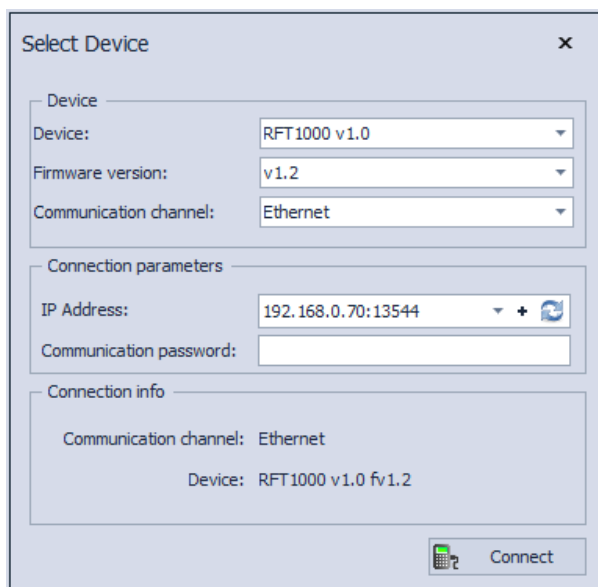
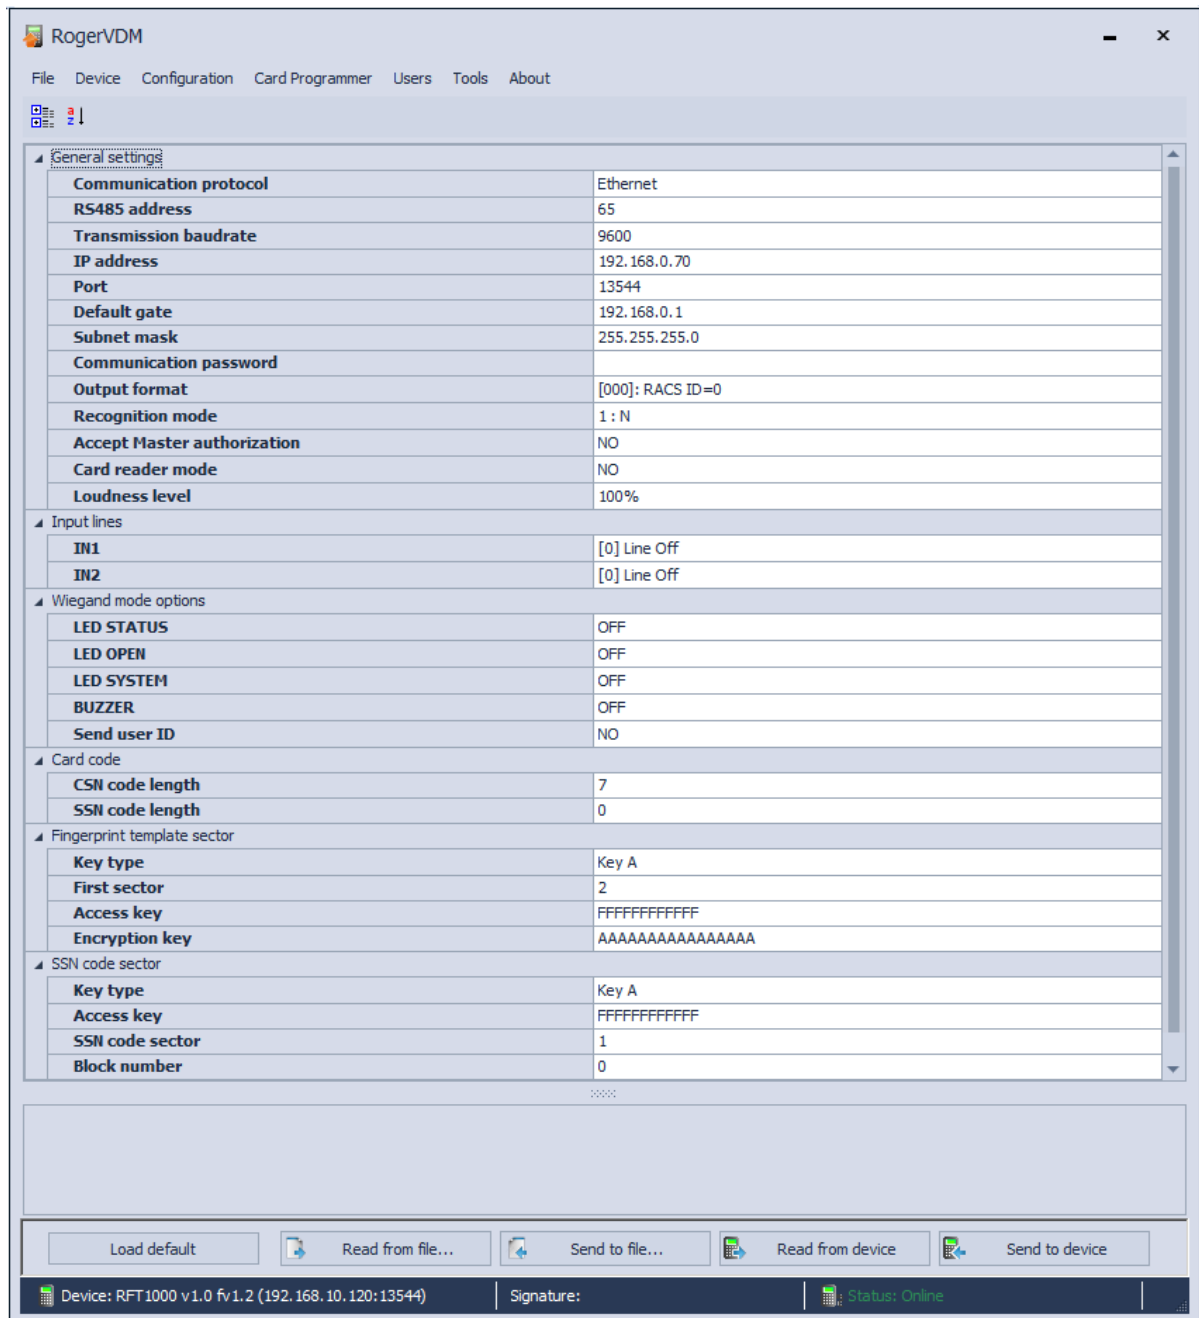
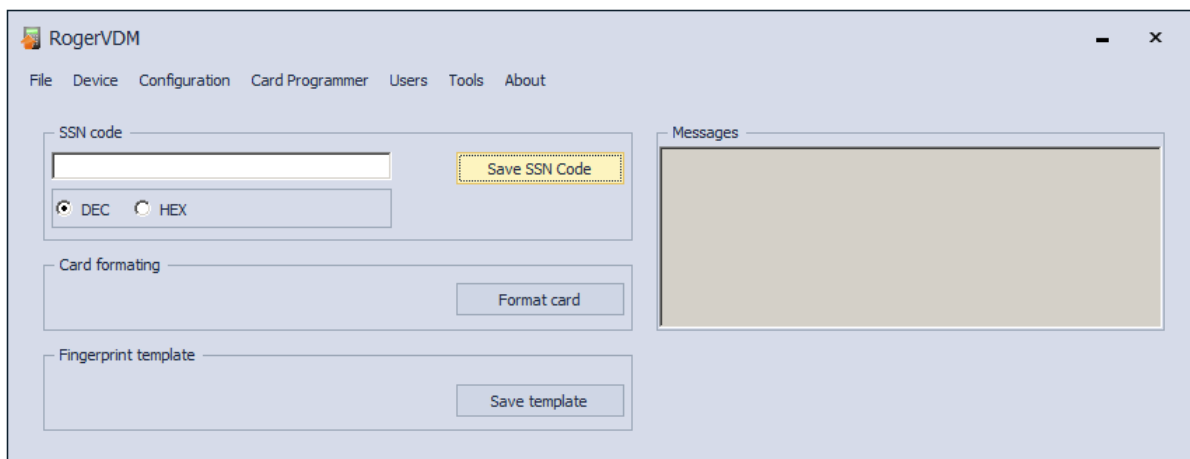

Fig. 6 Connection with RogerVDM software
Fig. 7 Configuration window in RogerVDM software
Fig. 9 Card programmer window
4. In the newly opened window (see fig.6) select **RFT1000 v1.0** device, firmware version **1.2** and then **Ethernet** communication channel.
After establishing the connection, it is possible to modify communication parameters both for Ethernet and RS485 communication in the newly opened window, which can be accessed by selecting the option **Configuration** in the top menu. In the area **General settings** (see fig. 7) enter your settings and then upload the configuration to the reader by means of **Send to device** button.
Additionally, according to table 3, in the area **Wiegand mode options** (see fig. 7) it is possible to configure the reaction of LED indicators and buzzer for certain actions performed by the reader.
RFT1000 reader can operate in two recognition modes, which are selected by means of the option **Recognition mode** in the **General settings** area of the window opened with the option **Configuration** in RogerVDM software (see fig. 7).
In 1:N mode, list of users is recorded in RFT1000 memory. Each user should have his ID number, card number, and 1 to 10 fingerprint templates. The identification of user in 1:N mode consists in reading his fingerprint or card number by RFT1000. In case of successful recognition, user card number or user ID number is sent to master device by means of Wiegand interface. If user ID number is to be sent instead of his card number, then the option **Send user ID** must be activated in the area **Wiegand mode options** (see fig. 7). In such case, master device must be properly configured in order to identify such ID numbers.
If the option **Accept Master authorization** in **General settings area** (see fig. 7) is activated, then users with Master attribute are not required to scan their fingerprints and they can use their cards for successful identification.
After selection of 1:1 mode, user enrolment consists in selection of **Add** button in **Users** area and entering his ID number, name and card number. Card number can be entered manually or read by means of built-in MIFARE reader when **Read** button is selected. In the next step it is necessary to open the window for card programming by means of the option **Card Programmer** in the top menu of RogerVDM software (see fig. 9). In the newly opened window, MIFARE card can be formatted (erased) by means of the button **Format card** and then fingerprint template can be recorded in card's memory by means of the button **Save template**. After selection of **Save template** button Fingerprint saving wizard is started and it is required to proceed according to displayed messages. The operation can be repeated, and successive fingerprint templates can be recorded until card memory is full. In the last step of the wizard the parameter **User with Master attribute** can be selected and users with such attribute are not obliged to scan their fingerprints for all RFT1000 readers with **Accept authorization master** option in **General settings area** (see fig. 7) activated. For such user, card number is sufficient for its identification. It is also possible to define sectors in MIFARE Classic memory cards, where fingerprint templates are to be recorded. Related options are available in the configuration window in the area **Fingerprint template sector** (see fig. 7):
User identification by configured RFT1000 reader depends on selected recognition mode (see section 4.4), input with function **[5]: Card Reader Mode** (see section 4.3) and option **Card reader mode** (see fig. 7). Input **[5]** is used for dynamic switching of user identification method in such way that it depends on input state. More information on application of the input **[5]** is given in table 4 below. The option **Card Reader Mode** is applicable only for 1:N recognition mode and it enables permanent activation of card reader in RFT1000. When this option is selected then user can identify by means of card or fingerprint template as needed.
MIFARE Classic and MIFARE Ultralight cards have their read-only serial numbers called CSN and memory, where administrator defined number called SSN can be stored. Optional SSN code provides additional security as it can be saved in administrator defined sector and it can be protected with access code against unauthorized reading. RogerVDM software enables defining of SSN code and recording it to any available sector of MIFARE card memory. RFT1000 reader can identify particular card (user) by means of CSN code, SSN code or combination of both but the total number cannot exceed 11 bytes. Options related to reading of CSN and SSN codes are available in **Card code** area of reader configuration window (see fig. 7)
SSN code as opposite to CSN code of MIFARE card can be defined by administrator. SSN Code as well as its sector in memory and method for recording can be indicated by administrator. SSN code can be defined and recorded by means of RogerVDM options, which are available in the area **SSN code** in the **Card programmer** window (see fig. 9). After selection of **Save SSN code** button it is necessary to hold the card in vicinity of RFT1000 reader. The code can be entered in decimal or hexadecimal format. Location and recording method can be defined by means of options, which are available in the area **SSN code sector** (see fig. 7):
The option **Send to device...** on reader configuration window (see fig. 7) enables exporting of RFT settings excluding users data base, while the option **Send configuration to file** which is available after selection of **File** option in the top menu of RogerVDM software enables exporting of RFT1000 full configuration including users data base. Following options are used respectively for reading configuration: **Read from device** (see fig. 7) and **Read configuration from file**, which is available by selection of File option in the top menu of RogerVDM software.
The communication with RFT1000 reader both in case of Ethernet and RS485 port can be encrypted with AES128 CBC standard. By default, encryption is conducted with empty communication password. Administrator can define his own communication password (max. 16 digits) in reader configuration window in the field **Communication password** (see fig. 7). Such password must be then entered when establishing connection with the reader by means of RogerVDM (see fig. 6).